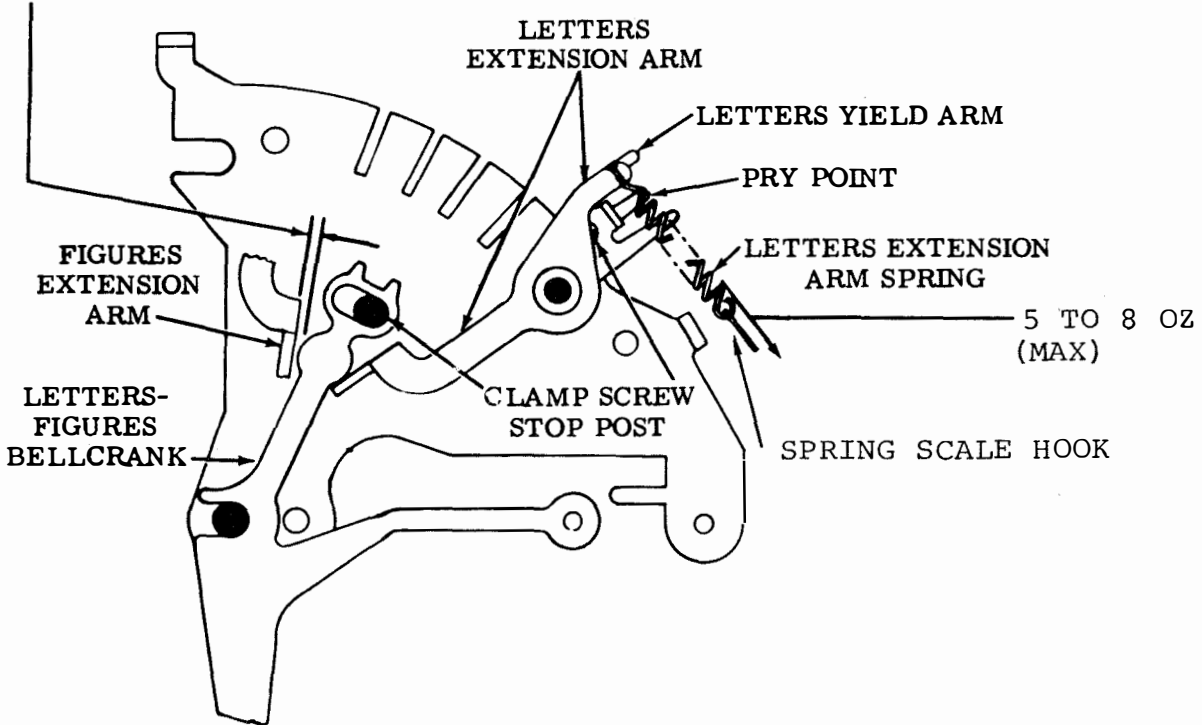

Figure 6-184. LETTEPS-FIGURES Yield Arms, LETTEPS Arm Assembly Spring, and LETTERS Extension Arm Spring
(d) For LETTERS yield arms, manually place arm assemblies in FIGURES position and hold LETTERS-FIGURES bellcrank against right edge of stop post. Measure clearance between bellcrank and FIGURES extension arm. (See Figure 6-184.)
3. For LETTERS yield arm, place arm assemblies in FIGURES position. Using pry point, position FIGURES yield arm to specified clearance. Tighten LETTERS yield arm clamp screw. (See Figure 6-184.)
(9) FIGURES Arm Assembly Spring. Adjust as follows:
(a) Refer to Figure 6-184.
- (a) Refer to Figure 6-184.
(13) Lifter Arm.